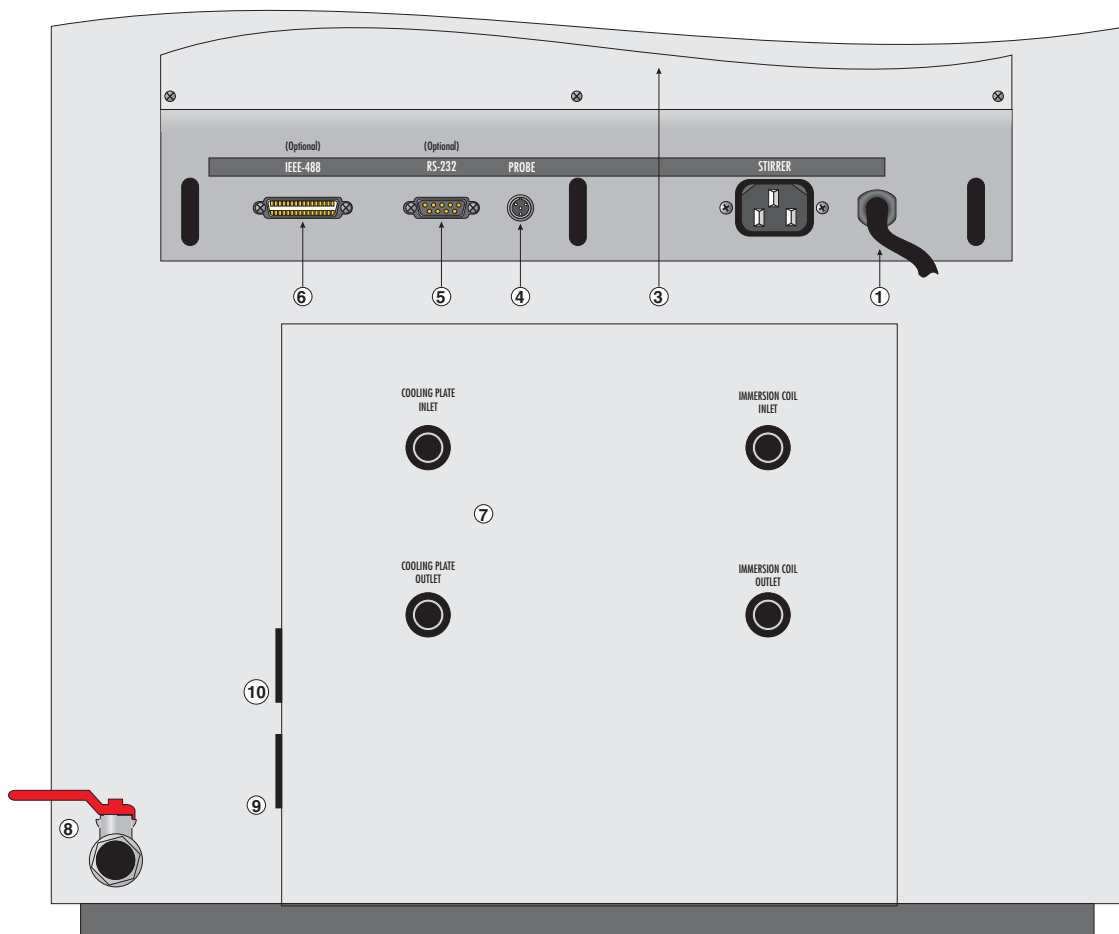

Figure 3 Back Panel
The back panel (Figure 3 on page 25) of the bath contains the following features: (1) the bath power cord, (2) the stir motor power socket, (3) the system fuses (located internally), (4) the probe socket, (5) the RS-232 interface connector (optional), (6) the IEEE-488 interface connector (optional), (7) the cooling tubes, (8) the drain (9) cooling valve control connection, and (10) boost cooling switch.
(1) The bath power cord extends from the back of the bath. It provides power for the bath temperature controller, the heaters, and the stir motor. The cord is plugged into an AC mains socket of 230 VAC ($\pm 10\%$), 50/60 Hz, 16 A.
(2) The stir motor power cord plugs into the socket labeled “STIRRER”. Power to the stir motor is switched on by the POWER switch on the control panel.
(3) The system fuses are located inside the tower assembly where they may be accessed if necessary. The fuses are rated for 20 A. Never replace the fuses with one of a rating greater than that specified.
(4) The control probe plugs into the bath at the socket on the back of the bath labeled “PROBE”.
(5) If the bath is supplied with a serial RS-232 interface, the interface cable is attached to the back of the bath at the connector labeled “RS-232”.
(6) If the bath is supplied with a GPIB IEEE-488 interface, the interface cable is attached to the back of the bath at the connector labeled “IEEE-488”.
(7) The cooling tubes protrude from the back of the bath. Cooling fluid may be circulated around the bath by pumping fluid through the tubes. These tubes are also the source for immersion cooling. Be sure the inlet and outlet connections are correct or the cooling may not work correctly.
(8) A drain valve is provided for ease of removing the fluid media from the bath. Some oils are more easily drained at higher temperatures. (See caution note below.)